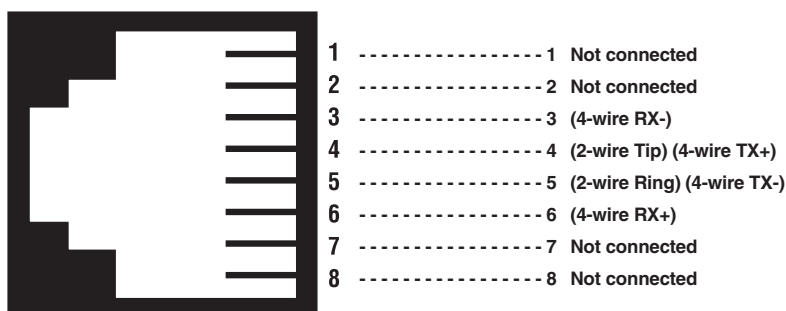

Figure E-7. RJ-45 line interface.
2. To function properly, the rear card needs one or two twisted pairs of metallic wire (2- or 4-wire). The twisted pairs must be unconditioned, dry, metallic wire, between 19 (0.9 mm) and 26 AWG (0.4 mm). Standard dial-up telephone circuits that run through signal-equalization equipment, or standard, flat modular telephone-type cable are *not* acceptable. See Figure E-7.